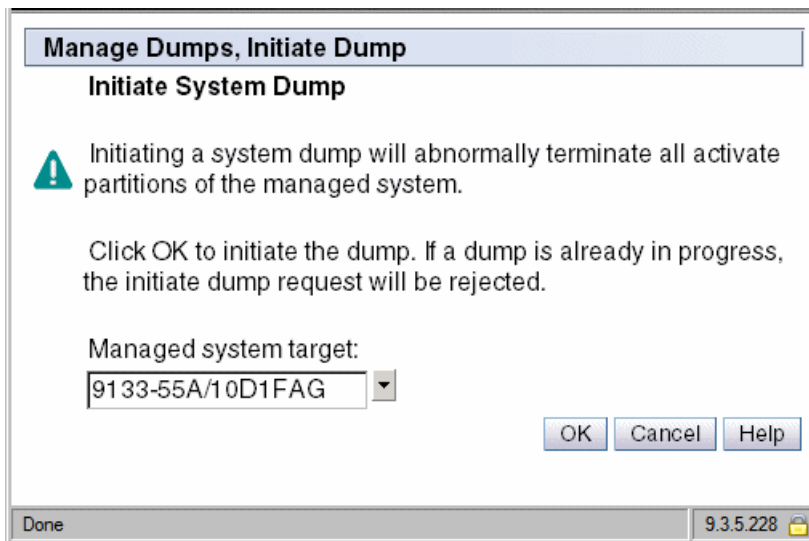

Figure 12-18 Service Management, initiate system dump
3. Specify the system where you want to initiate the dump (Figure 12-18). Verify the selected server, and then select **OK**.